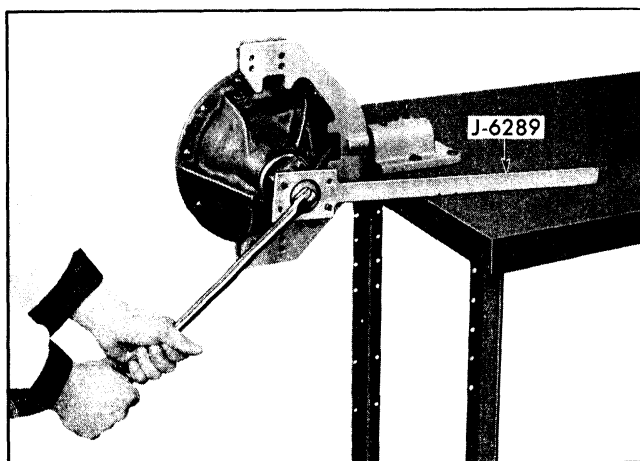

Fig. 4-49 Tightening Drive Pinion Nut
20. Using companion flange holding tool J-6289, tighten the nut a little at a time (Fig. 4-49), stopping frequently to turn the pinion several revolutions